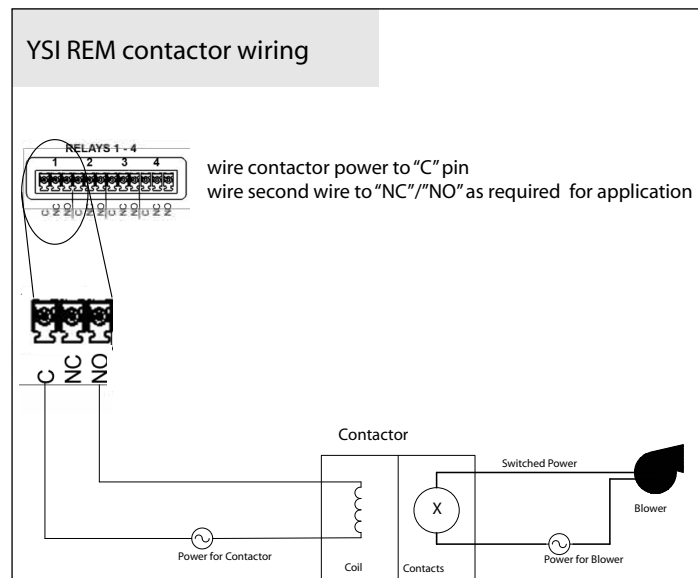

Figure 3.6
**CAUTION:** Do not overload relay(s). Check manufacturer specifications for inductive current/amp at power up. Use a contactor if necessary - figure 3.6.
The four onboard relays are rated at 250VAC@10AMPS. Contactors should be used for devices drawing current loads higher than relay specification. See figure 3.6 for contactor wiring.